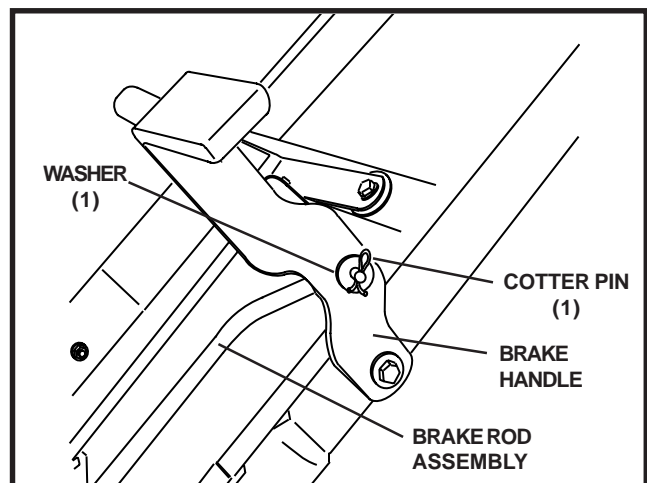

FIGURE 3
7. Attach brake rod assembly to brake handle on the upper handle bar assembly. See Figure 3.